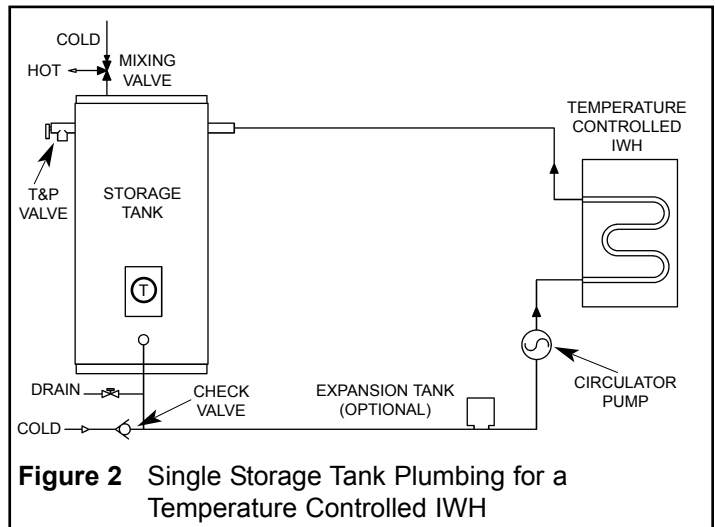
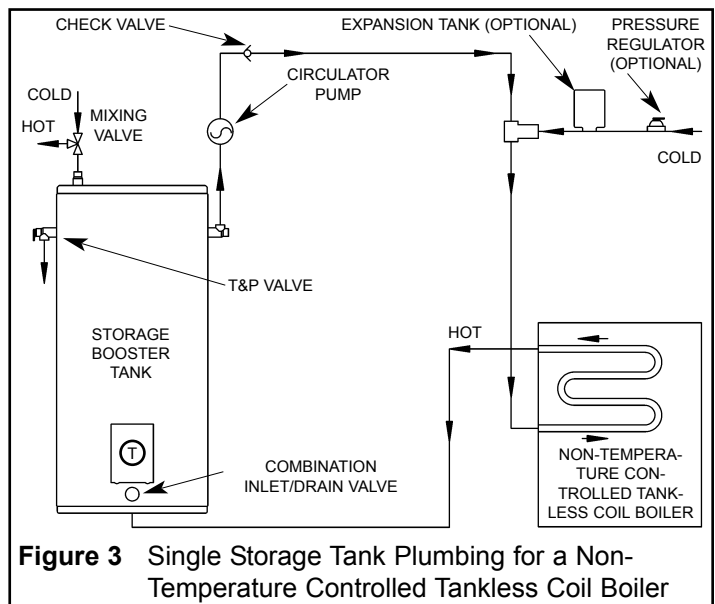

Figure 2 Single Storage Tank Plumbing for a Temperature Controlled IWH
Figure 3 Single Storage Tank Plumbing for a Non-Temperature Controlled Tankless Coil Boiler
For a temperature controlled instantaneous water heater it is recommended to install the plumbing as shown in Figure 2. It is also recommended to set-up and control the IWH outlet temperature to be at least 11°C (20°F) above tank thermostat temperature. The recommended plumbing installation for a tankless coil boiler is shown in Figure 3. In this case, because the tankless coil boiler is able to control only the differential between inlet and outlet temperature, the cold water entering the tankless coil boiler must be tempered with hot water from the storage tank. As there is a large variety of heat sources and control systems, please contact your local distributor for the plumbing system to identify the solution that best suits your application.
3. If the heating source is a tankless coil boiler go to step 4. If a temperature controlled IWH is used as a heat source, install the combination inlet/drain valve in one "arm" of a tee connected to the lower storage tank fitting. Connect the cold water supply piping to the inlet of the combination inlet/drain valve. Connect the other "arm" of this tee to the IWH inlet line and place the circulating pump in this line. Connect the IWH outlet to the upper storage tank side fitting (see Figure 2). Proceed to step 5.
4. For a tankless coil boiler install the combination inlet/drain valve in the lower storage tank fitting. Connect the inlet of the combination inlet/drain valve to the hot outlet of the tankless coil boiler. In this instance the "leg" of a tee should connect to the cold water supply line, one "arm" connects to the circulator pump and the other "arm" to the inlet of the tankless coil boiler. The circulator pump connects to the upper side fitting of storage tank (see Figure 3).
9. The water utility supply meter may contain a check valve, back-flow preventer or water pressure-reducing valve. This will create a closed water system. During a heating cycle, water expands creating a pressure buildup in the water system. A Temperature and Pressure (T&P) Relief Valve must be installed (150 psi maximum pressure). See preceding section. If the T&P valve discharges periodically, it may be due to thermal expansion in a closed system. To prevent this condition and to reduce the possible buildup of lime on the T&P Relief Valve seat, install a thermal expansion tank in the circulating loop as shown in Figure 2 and 3.